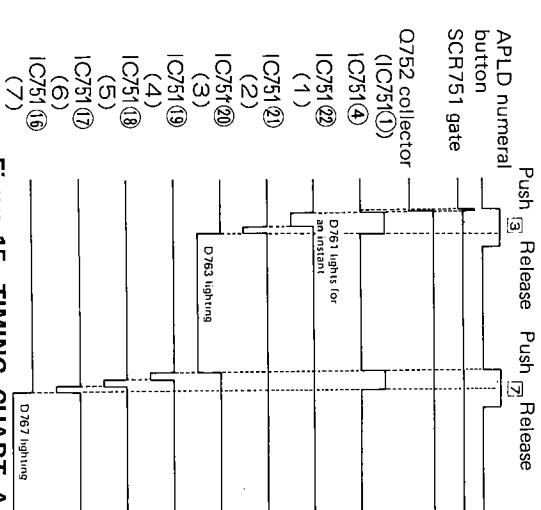

Figure 15 TIMING CHART A
■ PRESET/POWER CIRCUIT (Refer to Figure 15 and 18)